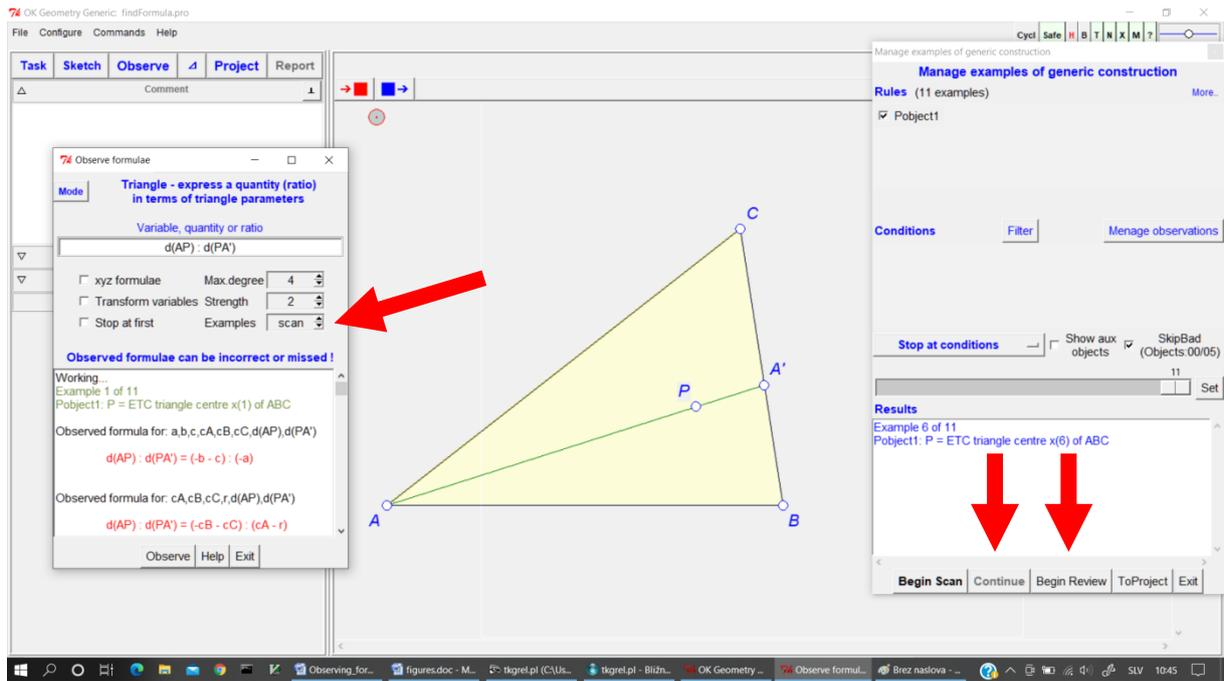

Figure 72
1. Fill the **Observe formulae** form, in our case we observe the ratio $d(AP):d(PA')$. In particular, be sure that the entry **Examples** is set to **scan** (Figure 72).
3. At the end of the observation, you are asked whether to pass to the examples manager the information for which examples something useful was found. If you choose to do so, you can review the examples with the **Begin Review** and the **Continue** buttons in the form for managing examples (Figure 72).